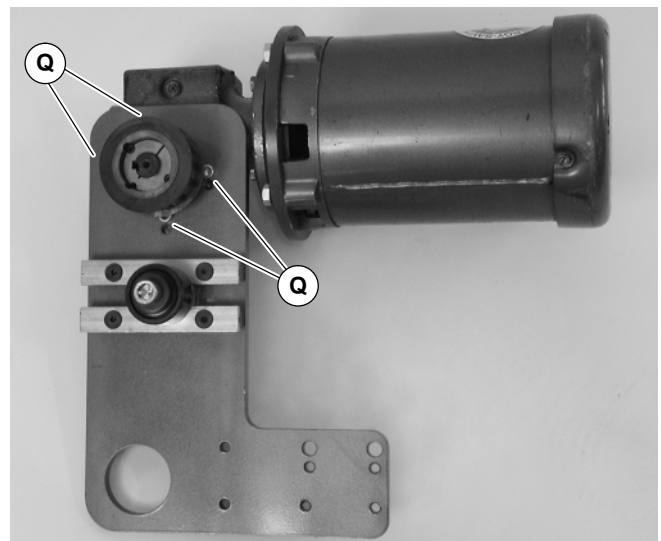

Figure 4
2. If required, change gearmotor position by removing four (4) screws (Q of Figure 4). Rotate gearmotor to other position and replace screws (Q). Tighten to 110 in-lb (12 Nm).